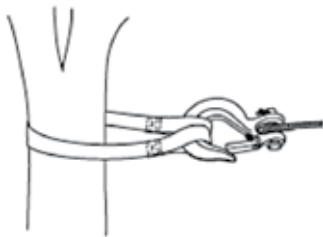

Fig. 7
**CAUTION** Do not wrap the winch cable around the object and hook onto the cable itself. This will damage the winch cable and object being pulled (see figure 7).